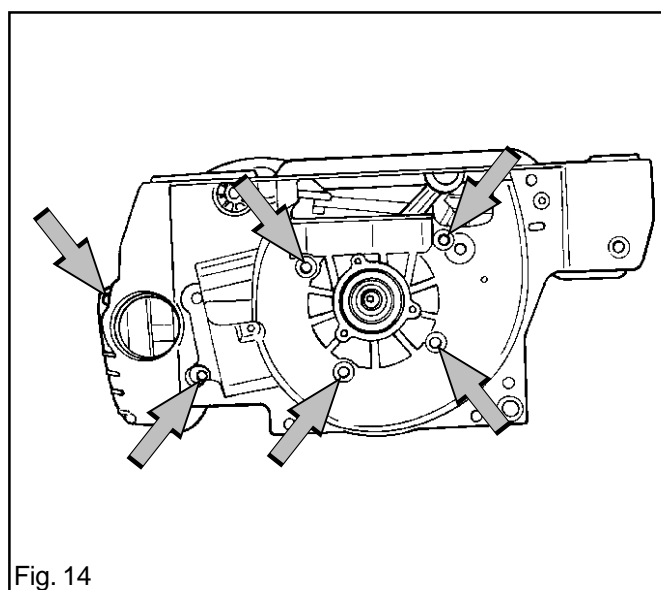

Fig. 14
- Fit the six bolts. Tighten them alternately. Tighten them finally to 8 Nm. See fig. 14.